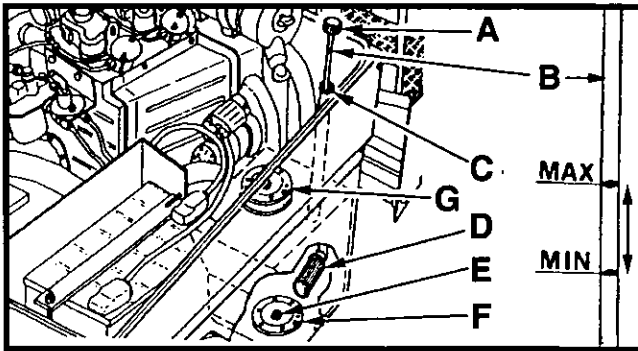

Figure 5-29 Hydraulic Tank
The Vibration/Steering System suction strainer ('D', Figure 5-29) is screwed onto the suction pipe on:
1. Place a container capable of holding at least 22 gallons (84 liters) under the drain plug (E, Figure 5-29).
2. Remove the drain plug ('E', Figure 5-29), and drain the hydraulic tank. Dispose of oil in accordance with local regulations.
3. Remove the cover plate ('F', Figure 5-29) located in the base of the hydraulic tank.
4. The Vibration/Steering System return strainer ('G', Figure 5-29), is located on the upper surface of the tank. Remove the filter cover to clean the inside strainer gauze..